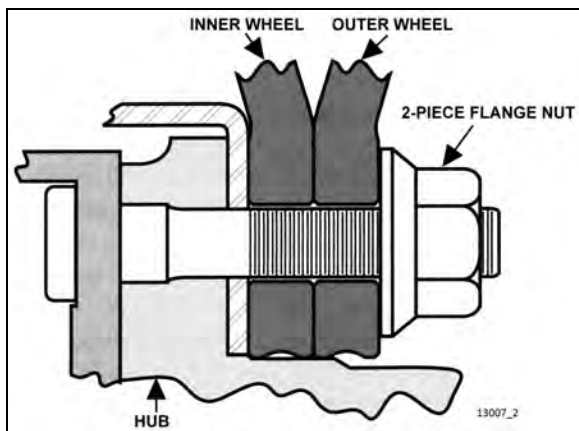

FIGURE 4: DRIVE AXLE WHEELS
1. Loosen a hex stud nut three turns (Figure 4);
2. Check wheel lateral run-out. Install a dial gauge as shown in figure 4, then rotate the wheel by hand one full turn. As the wheel turns, note any variation on the dial gauge;